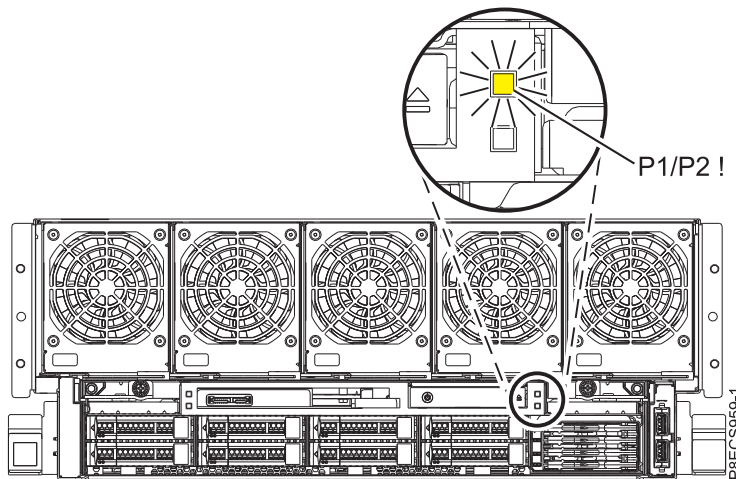

Figure 7. Front **P1/P2 !** fault roll-up LED on the 8408-44E or 8408-E8E system.
6. Note the state of the **P1/P2 !** fault roll-up LED, which is located on the front of your 8408-44E or 8408-E8E system as shown in Figure 7.